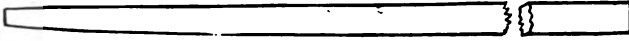

Fig. 23.
**Straight Pivots** with square shoulders are polished with a steel polisher slightly curved along the edge, that acts against the shoulder of the pivot, as shown in Fig. 23. This edge is also dovetailed a little so as to form rather less